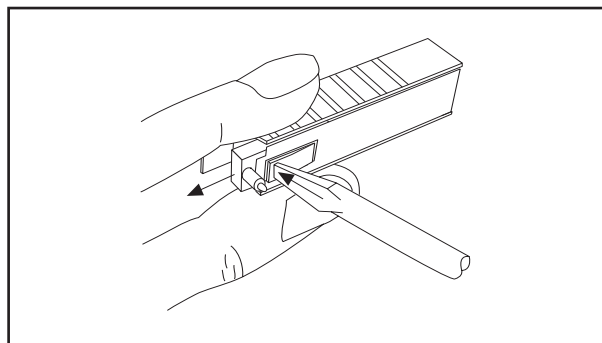

Figure 2-13. Pen Removal
3. With a screwdriver in one hand, push on the rectangular area of the pen shown in Figure 2-13. Using the other hand, release the pen from the spring clip attached to the pen holder.